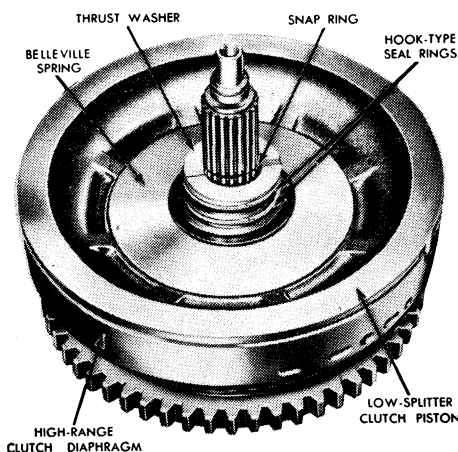

Fig. 26 Low splitter clutch piston
10. Remove thrust washer and two hook-type seal rings from diaphragm, Fig. 26.